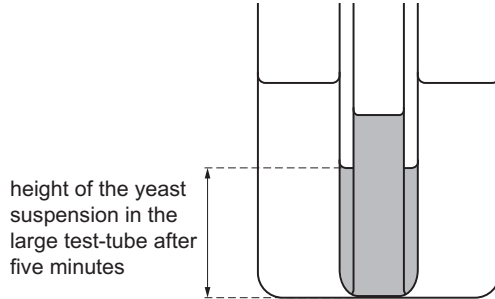

Fig. 1.2
- Step 8 After five minutes, stop the stop-clock and use a ruler to measure the height of the yeast suspension in the **large** test-tube, as shown in Fig. 1.2.